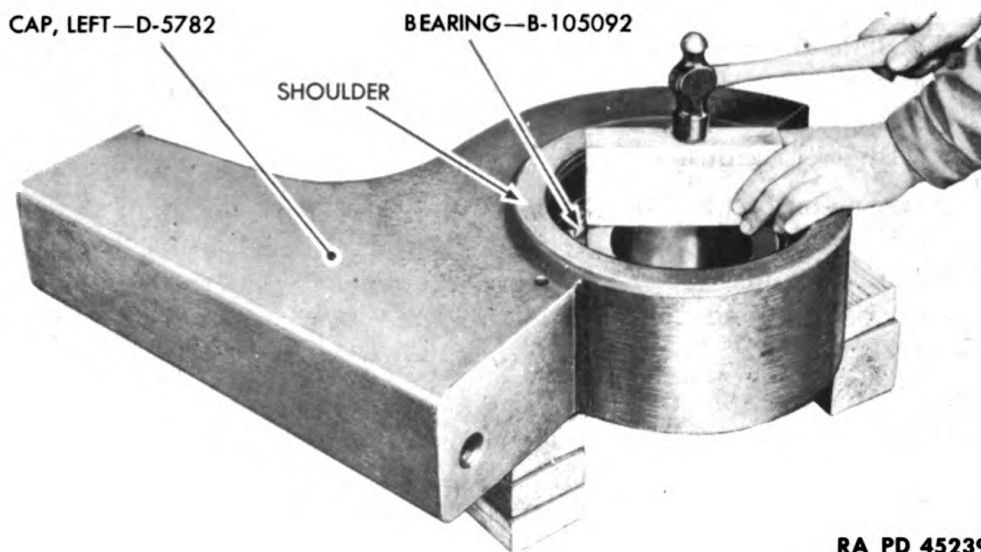

Figure 89—Removing Bearing from Trunnion Cap
(1) Place the trunnion bearing cap, shoulder side up, on two wood blocks. Tap the roller bearing B105092 from trunnion bearing cap D5782 (fig. 89).
(4) Pack the large trunnion bearing cap roller bearing thoroughly with **GREASE**, general purpose (seasonal grade), and lightly grease the inside of bearing cap where the roller bearing fits. Install large roller bearing in trunnion bearing cap (fig. 89).